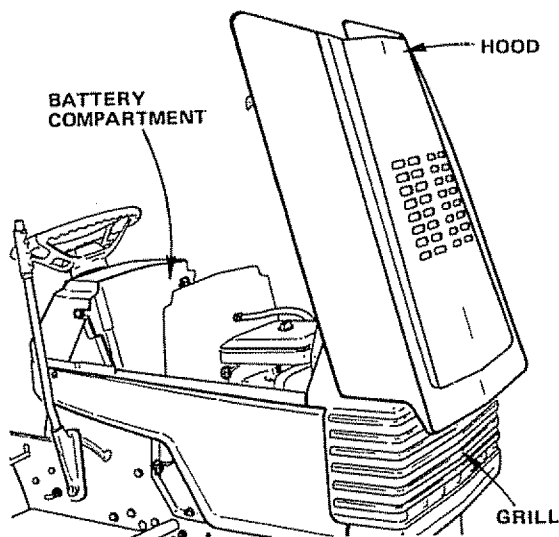

FIGURE 2
- a. Lift hood from rear sides (Fig. 2)